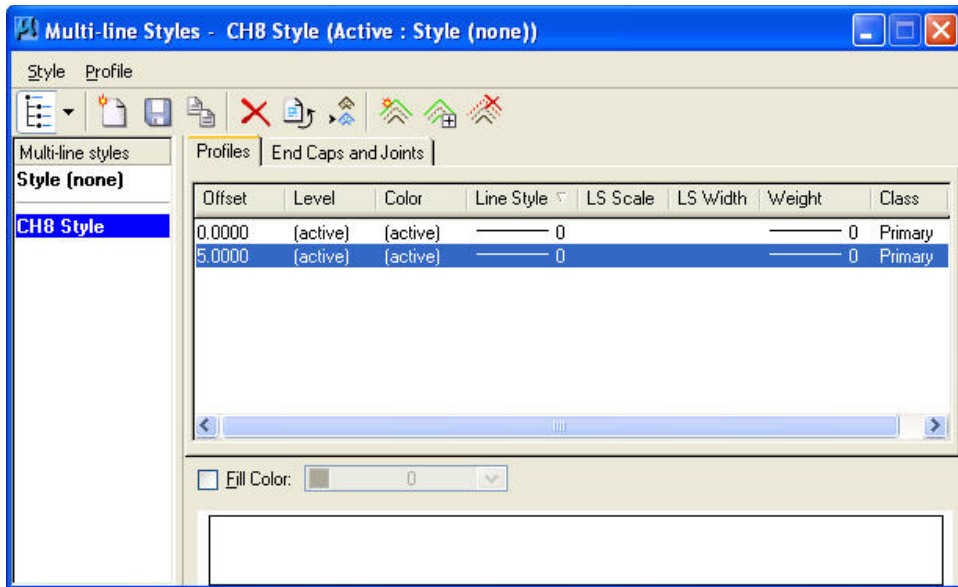

Figure P8-3 Setting the Attributes for the second line in the wall's Multi-line profile
STEP 5: Select the second line in the Component list box and set the Attributes as shown in Figure P8-3.